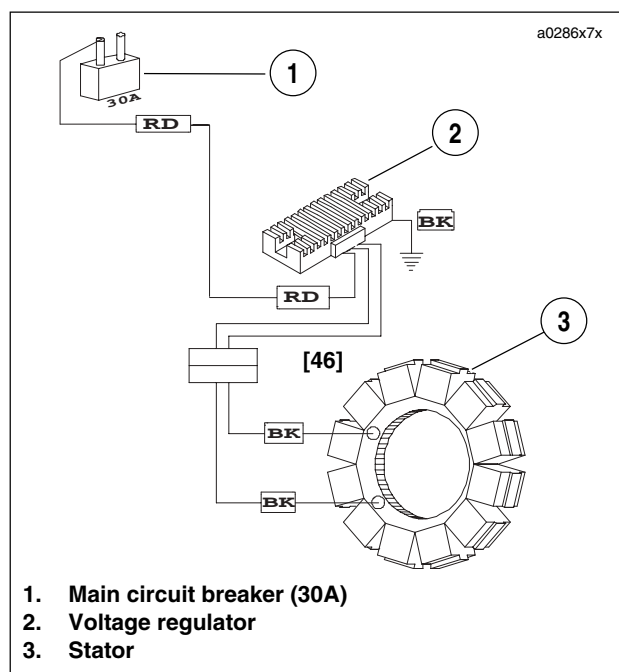

Figure 7-56. Voltage Regulator Connector [46]
2. See Figure 7-56. Locate voltage regulator connector [46] behind left footrest support. Disconnect from alternator stator wiring. Cut cable straps if necessary.